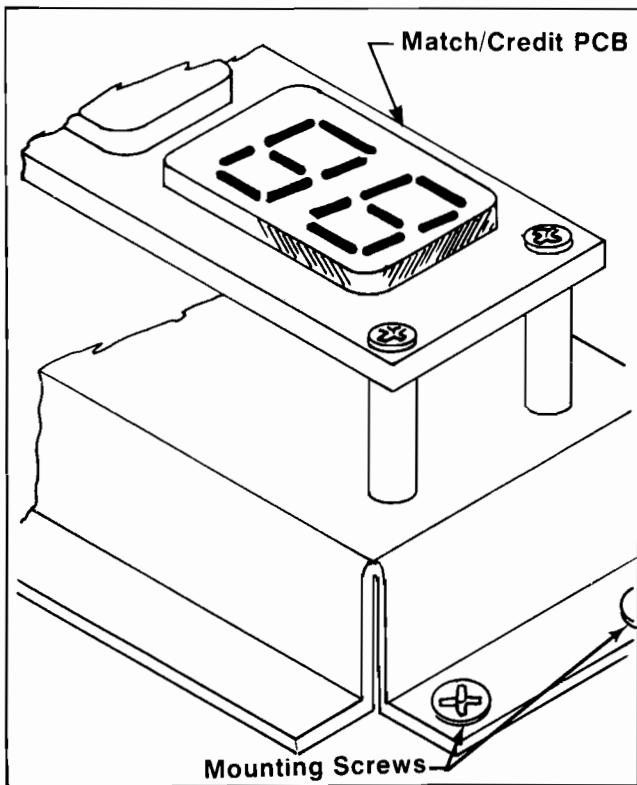

Figure 20 Lower Right Corner of Display Assembly
1. Lower the assembly down into its final position and line up the four mounting holes with their mating holes in the playfield. Be careful not to pinch the lamp wires that are routed through a slot at the lower right corner of the assembly (refer to Figure 20).